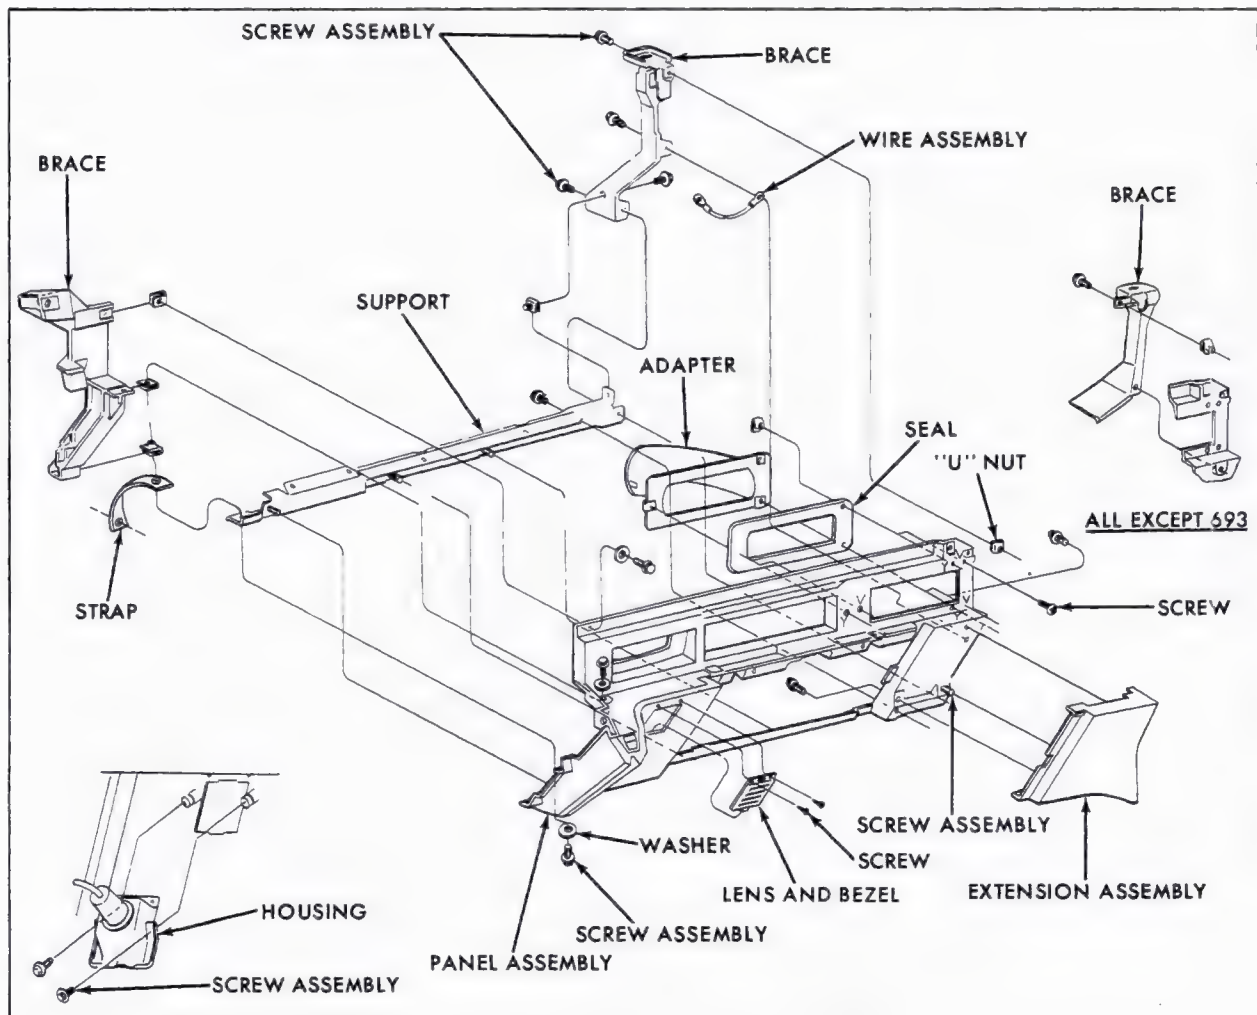

Fig. 12-41 Instrument Panel - (Right Side)
51. Instrument Panel—Right Side (Fig. 12-41)
8. Remove the following screws as shown in Fig. 12-41:
2. Install the following screws as shown in Fig. 12-41:
52. Instrument Panel Extension— Right Side (Fig. 12-41)